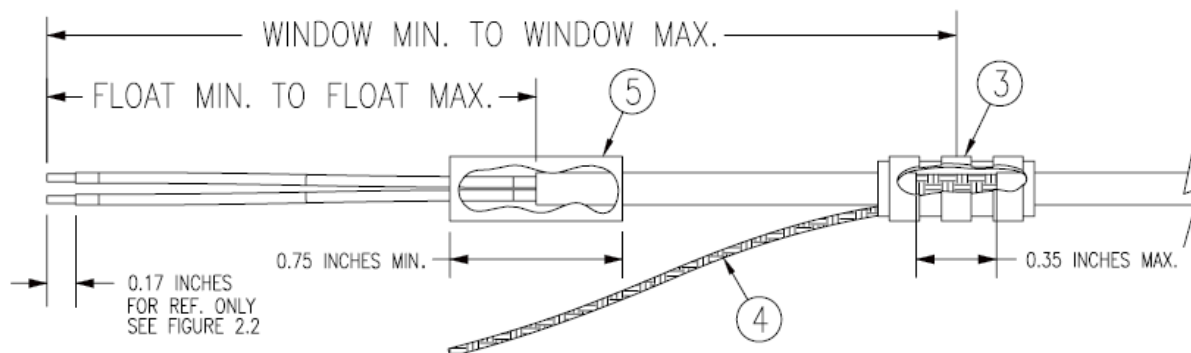

Figure B-6. Method A.1 for Shield Termination
2. At one end of a shielded cable (item 2) measure a distance between “Window Min” to “Window Max” (Table B-6) and cut a window (max size 0.35”) in the jacket to expose the shield (Figure B-6). Use caution when cutting the jacket to avoid damaging the individual braids of the shield. When dealing with a densely populated connector with many cables, it may prove beneficial to stagger the windows throughout the “Window Min” to “Window Max” range. If staggering is not needed the “Ideal Window” length is recommended.
3. Connect a Flat Braid (item 4) to the shield exposed through the window of the prepared cable assembly (item 2) from step 2. The Flat Braid should go out the front of the termination towards the connector. It is not permitted to exit the rear of the termination and loop back towards the connector (Figure B-6). Make this connection using an approved shield termination technique.
4. At the same end of the shielded cable (item 2) and ahead of the previous shield termination, strip back “Float Min” to “Float Max” (Table B-6) length of jacket and shield to expose the insulated center conductors (Figure B-6). The “Ideal Float” length may be best to build optimally.